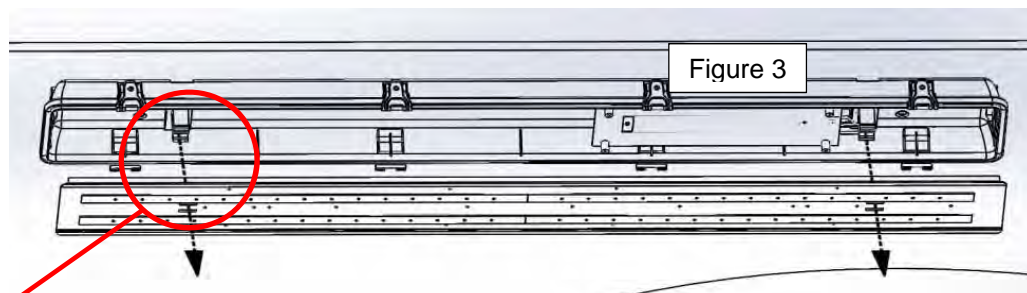

Figure 3
3. Detach LED tray from fixture as shown in figure 3.